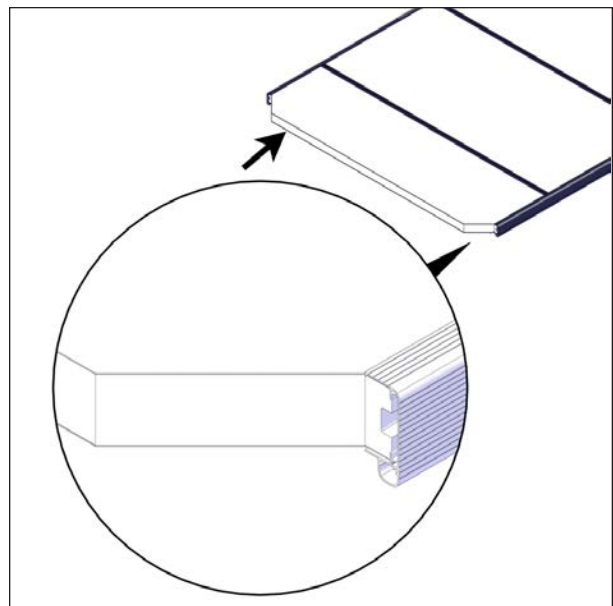

FIGURE 54: END PANEL INSTALLATION
16. Insert one end panel with the tapered end toward the end of the cover. The end panel is tapered with a 45° cut see Figure 54.